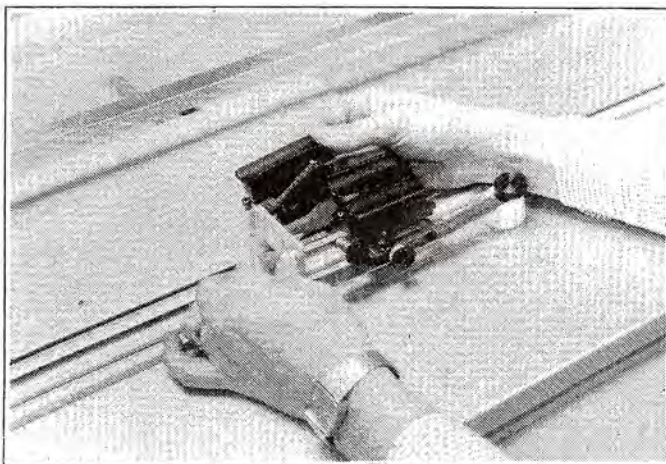

Fig. 2
1. To fit the vertical blade holder (5) loosen the locking screw on its side. Hold it as shown in Fig. 2, and slide the round bolt fully into the cutter head assembly (6), making sure that the small positioning dowel is also correctly located in the cutter head. Tighten the locking screw on the side of the vertical blade holder.